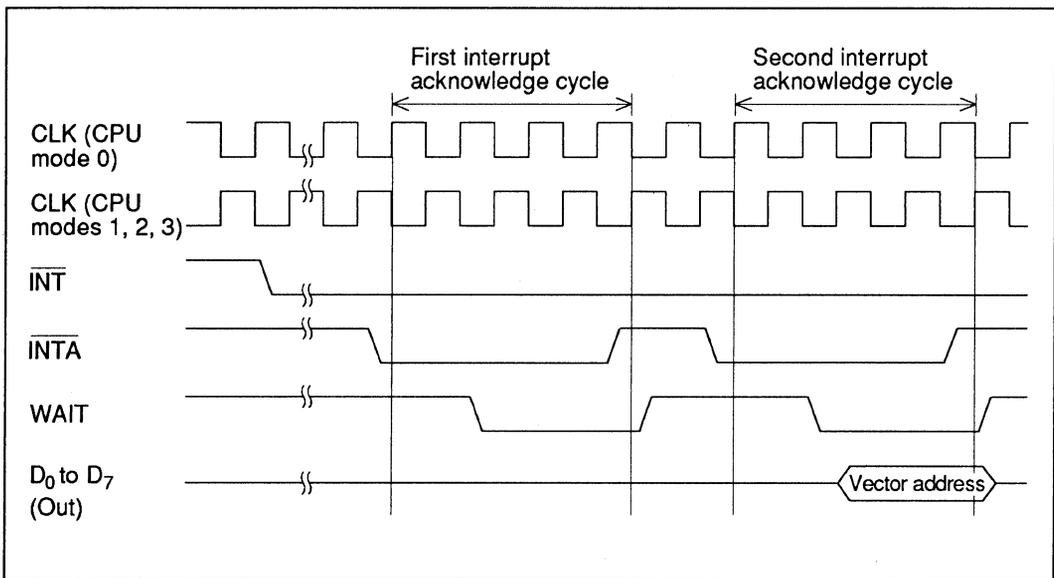

Figure 4-3 Timing Sequence of Double Acknowledge Cycle
3. Double acknowledge cycle: The first active (low) $\overline{\text{INTA}}$ input is ignored; the data bus is left in the high-impedance state. The IVR or IMVR contents are output on the data bus at the second active (low) $\overline{\text{INTA}}$ input (figure 4-3).